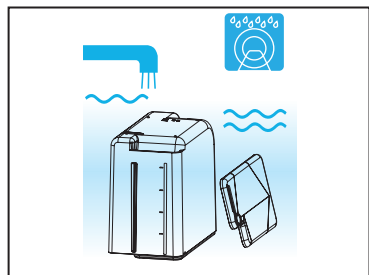

Fig.4
4. Rinse the milk tank and lid with warm water (use a mild cleaning agent to wash the tank, if necessary) (See Fig.4).